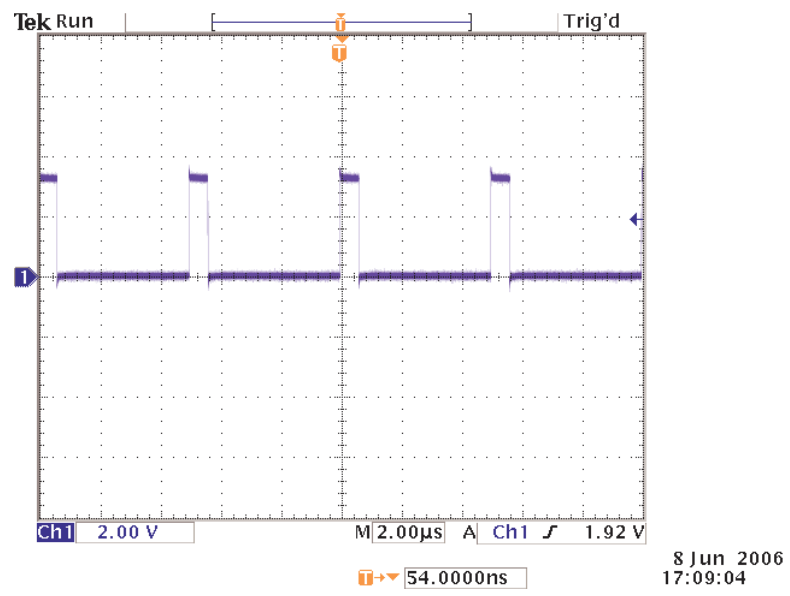

Figure 5. PWM waveform from Build11 on EPWM1A.
- Inspect the PWM output on EPWM1A (P8, pin 9), on the EZDSP. Vary the duty cycle by modifying the value of the variable 'duty1'. A screen capture of the PWM waveform is shown in Figure 5. (The value of duty1 used to capture the waveform was 0x1000.)